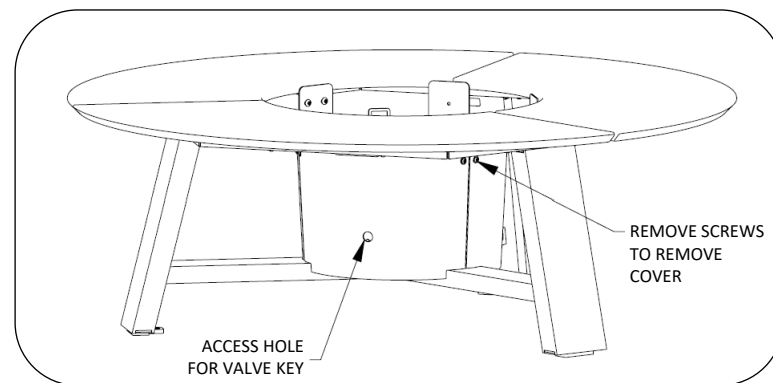

Fig. 1 – remove covers
1. Remove 2 of the metal covers, see Fig. 1. Cover with access hole for valve key can remain installed.